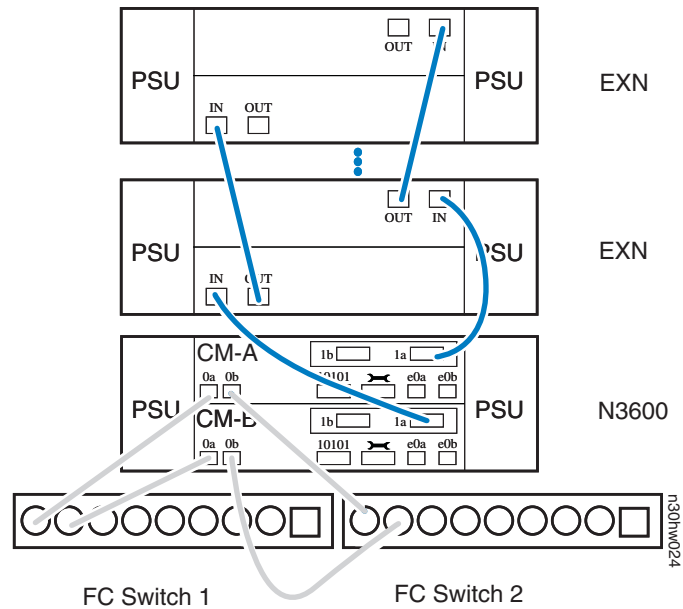

Figure 6. Cabling the N3600 expansion adapter to expansion units
3. As shown in Figure 6 on page 19, cable the dual-port expansion adapter Port 1a on the top controller module (CM-A) to the first expansion unit Channel A ESH2/ESH4 or AT-FCX IN port.
4. As shown in Figure 6 on page 19, cable the dual-port expansion adapter Port 1a on the bottom controller module (CM-B) to the first expansion unit Channel B ESH2/ESH4 or AT-FCX IN port.
5. As shown in Figure 6 on page 19, cable the first expansion unit Channel A ESH2/ESH4 or AT-FCX OUT port to the next expansion unit Channel A ESH2/ESH4 or AT-FCX IN port. Label this cable with a solid-colored label.
6. As shown in Figure 6 on page 19, cable the first expansion unit Channel B ESH2/ESH4 or AT-FCX OUT port to the expansion unit Channel B ESH2/ESH4 or AT-FCX IN port. Label this cable with a solid-colored label.